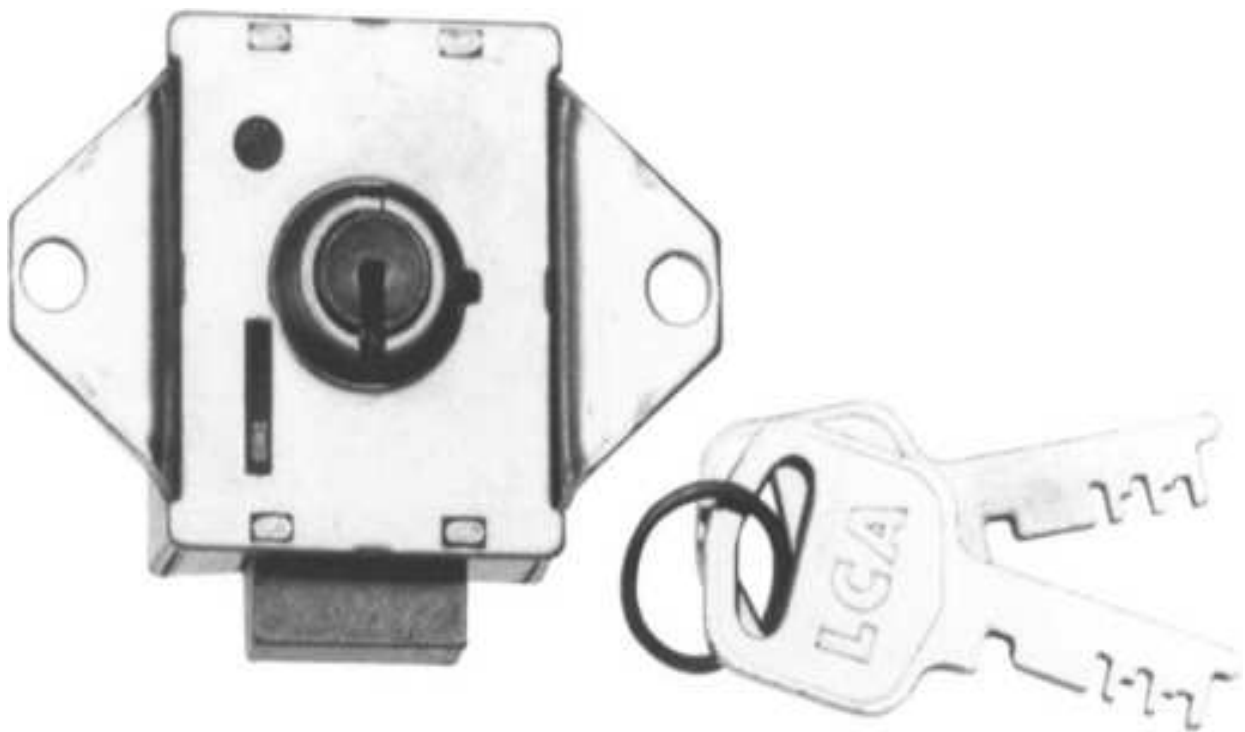

**Figure 5.6** A lever tumbler deadbolt lock for lockers. (*Lock Corporation* )
**The Lock Corporation of America.** The Lock Corporation of America offers a locker and cabinet with a locking spring design accompanied by a free-turning keyway that combine to make the locks pick resistant (Fig. 5.6 ).